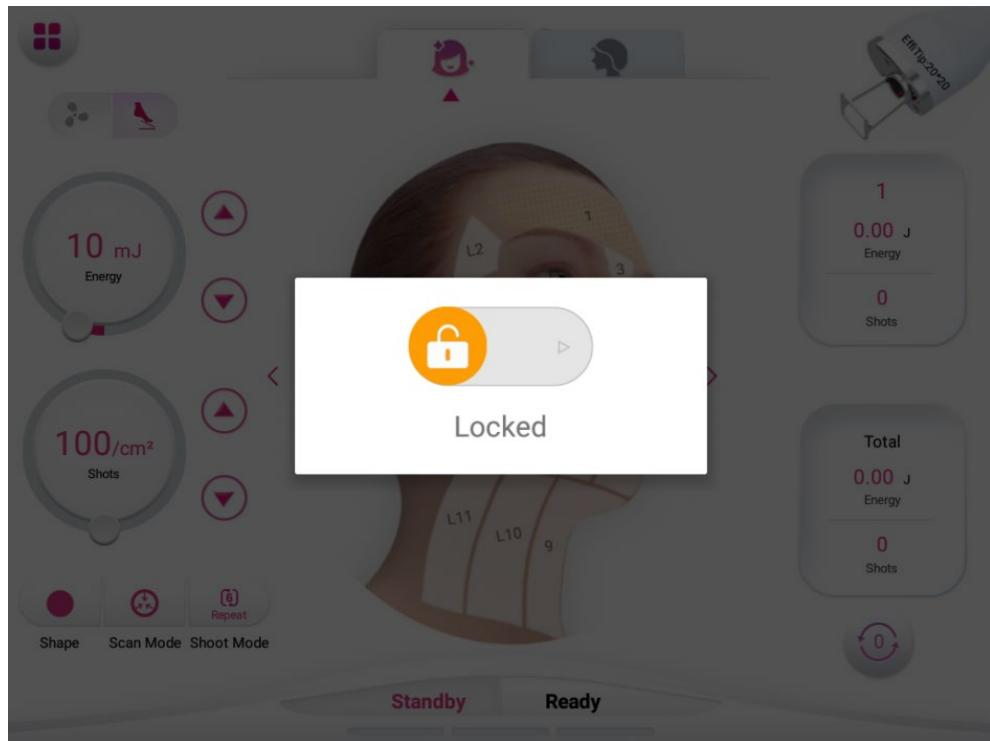

Figure 3-6
⑯**Locked:** click locked and the screen will be locked, swipe right and put password to continue. (Figure 3-6)